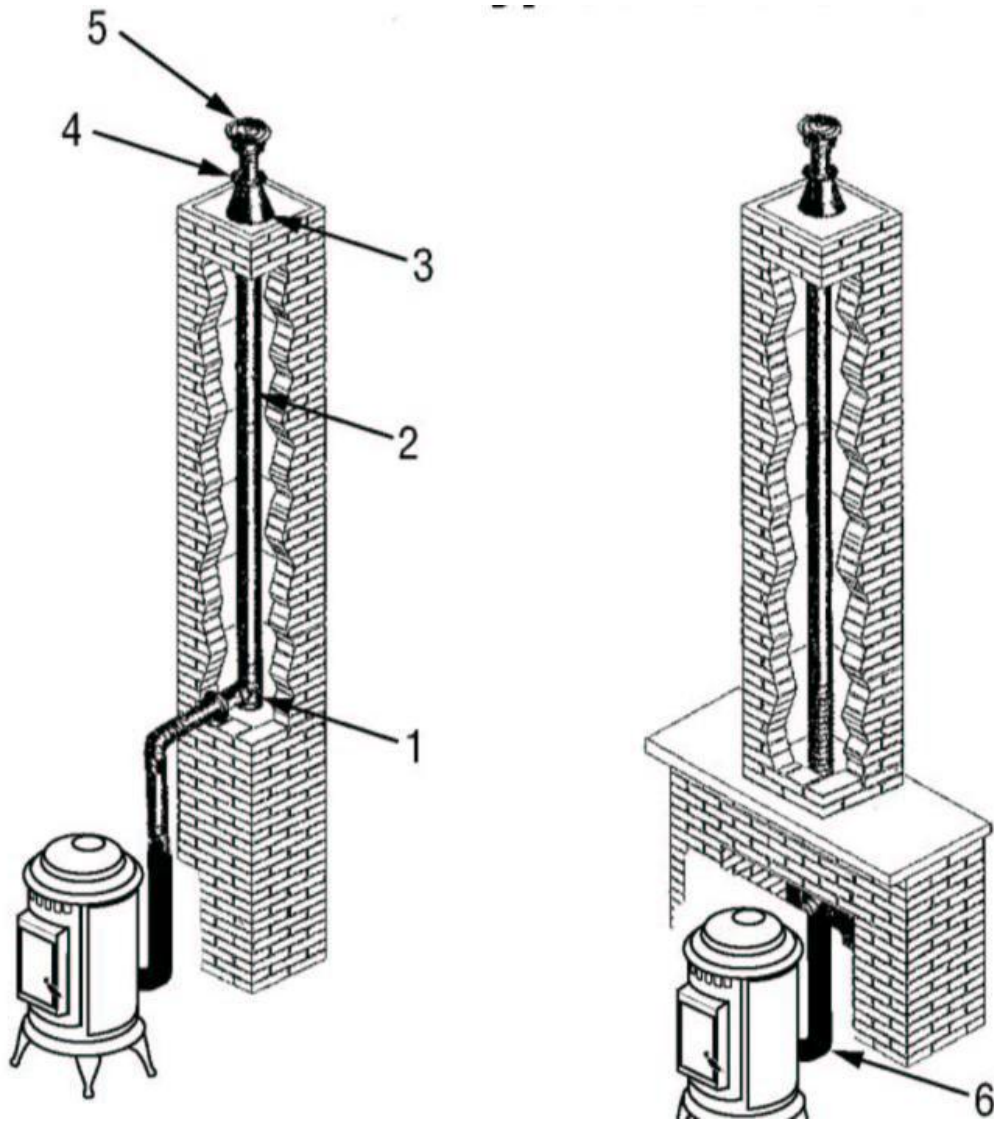

FIGURE 9
2. Locate thermostat terminal at the bottom of the stove (see **FIGURE 9**).
6. Open hopper lid and REMOVE all manuals and materials shipped with stove. Open front door and remove contents. Fill hopper with pellets. The Gnome pellet hopper will hold approximately 40 pounds of pellets. The hopper lid must be closed before operating the unit. The feed motor will not work if the hopper lid is open. Open front door and remove contents. Make certain firepot is seated flush and must sit even in the fire pot holder. Air leakage around the fire pot will create a poor burn (See **FIGURE 9**).